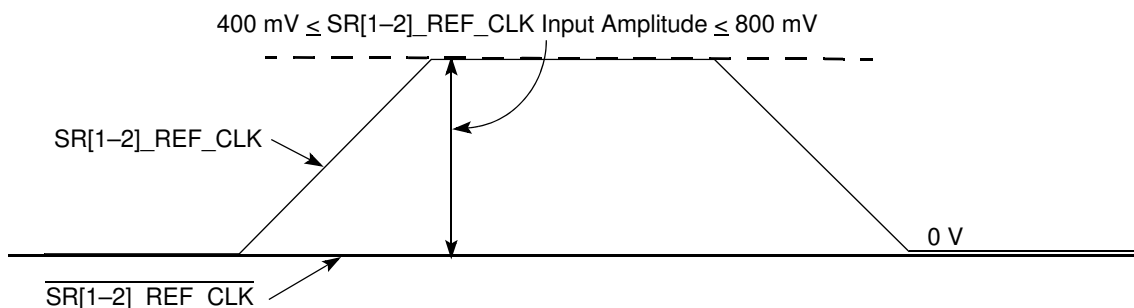

Figure 9. Single-Ended Reference Clock Input DC Requirements
- The SR[1-2]_REF_CLK input average voltage must be between 200 and 400 mV. **Figure 9** shows the SerDes reference clock input requirement for single-ended signalling mode.